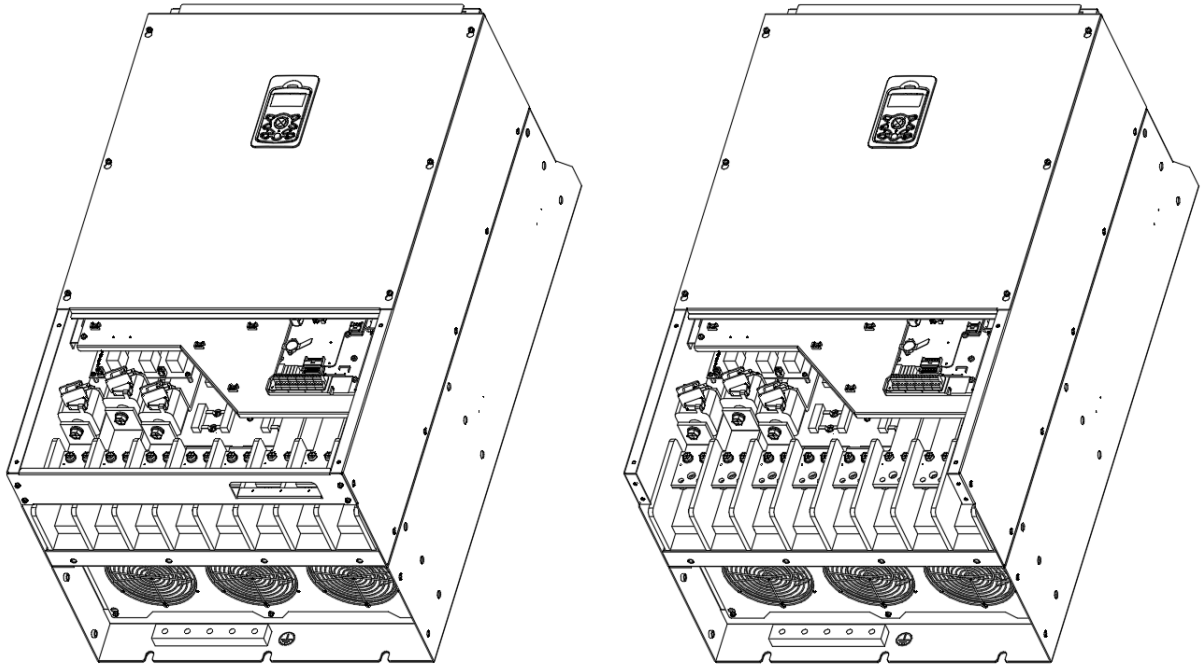

Figure 13. Remove Power Cover and Front cover
- ① Remove the Power cover and Front cover of the product as shown in the Figure 13.